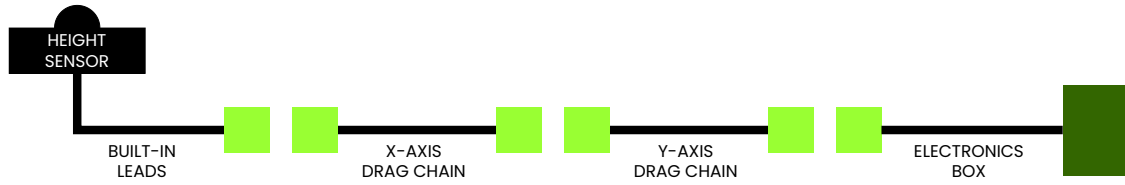

Figure 47: Cabling stages for the height sensor.
The cabling for the height sensor consists of providing it with power from the electronics board to the sensor. The cabling should be done in such a way that its parts are located in the different major components. Figure 47 presents the cabling stages for the height sensor. A total of four (4) 3-pin connectors and 4350 millimeters of 3-phases cable are needed in order to execute the height sensor cabling. Table 7 presents the procedure for cabling the height sensor.